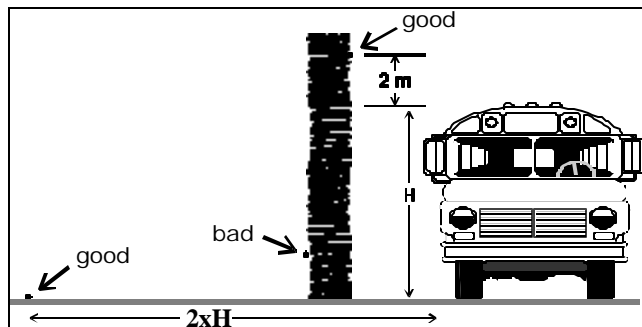

Fig. 3
- the sensor cable is mounted at a height of at least 2.0 m (6.6 feet) higher than the traffic’s highest moving object. (See Figure 3)